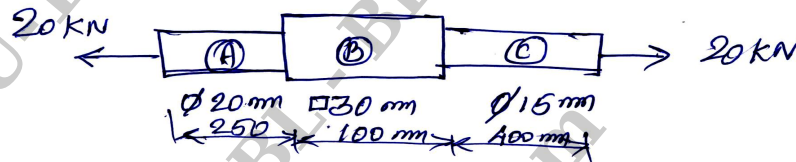

Fig.Q1(b)
- b. Determine the stress in each section of bar shown in Fig.Q1(b) when subjected to an axial load of 20 KN. The central section is of square cross-section. Other portions are of circular cross-section. What will be the total extension of bar? Take $E = 210 \text{ GPa}$.